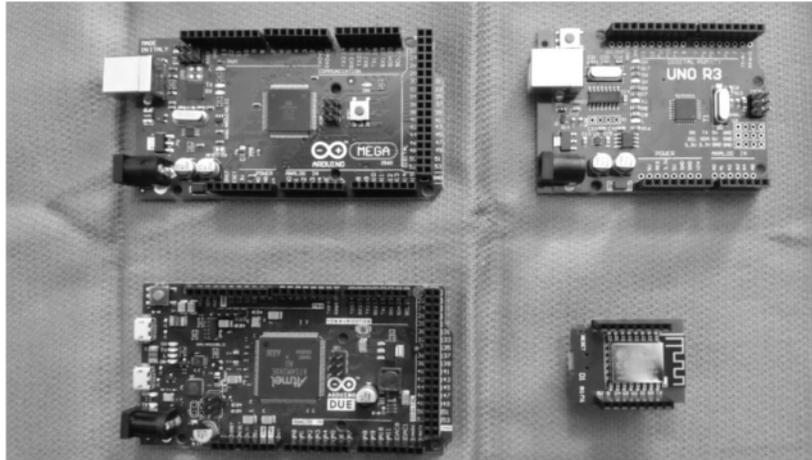

**Figure 3 AA5C 47 GHz Transverter**
A single controller can be used to control multiple PLLs or devices that use a SPI bus interface. An additional I/O pin needs to be assigned for each extra device connected to the SPI bus for the load enable line (LE) and called out separately in the code. I recently completed a 47 GHz transverter that uses two ADF5355 evaluation boards for the LOs. It uses a double conversion frequency plan. The two ADF5355 evaluation boards are controlled by one Arduino Uno (Figure 3 AA5C 47 GHz Transverter) as shown in the lower left of the figure. The additional amplifiers needed to bring the relatively low (~ -8 dBm) output power levels of the ADF5355 evaluation boards (two 12 GHz amplifiers are required for the 12,978 MHz LO and one for the 8.01 GHz LO) can also be seen in the picture. The 32 MHz reference signal is supplied to each synthesizer from a two-way power splitter.